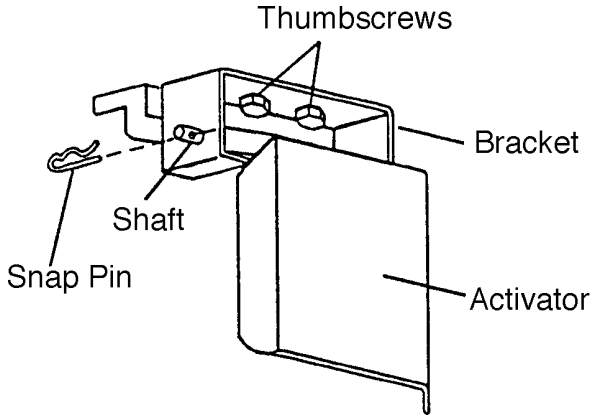

Fig. 10
- 3) Remove the Bin Control Bracket Assembly. See Fig. 10.